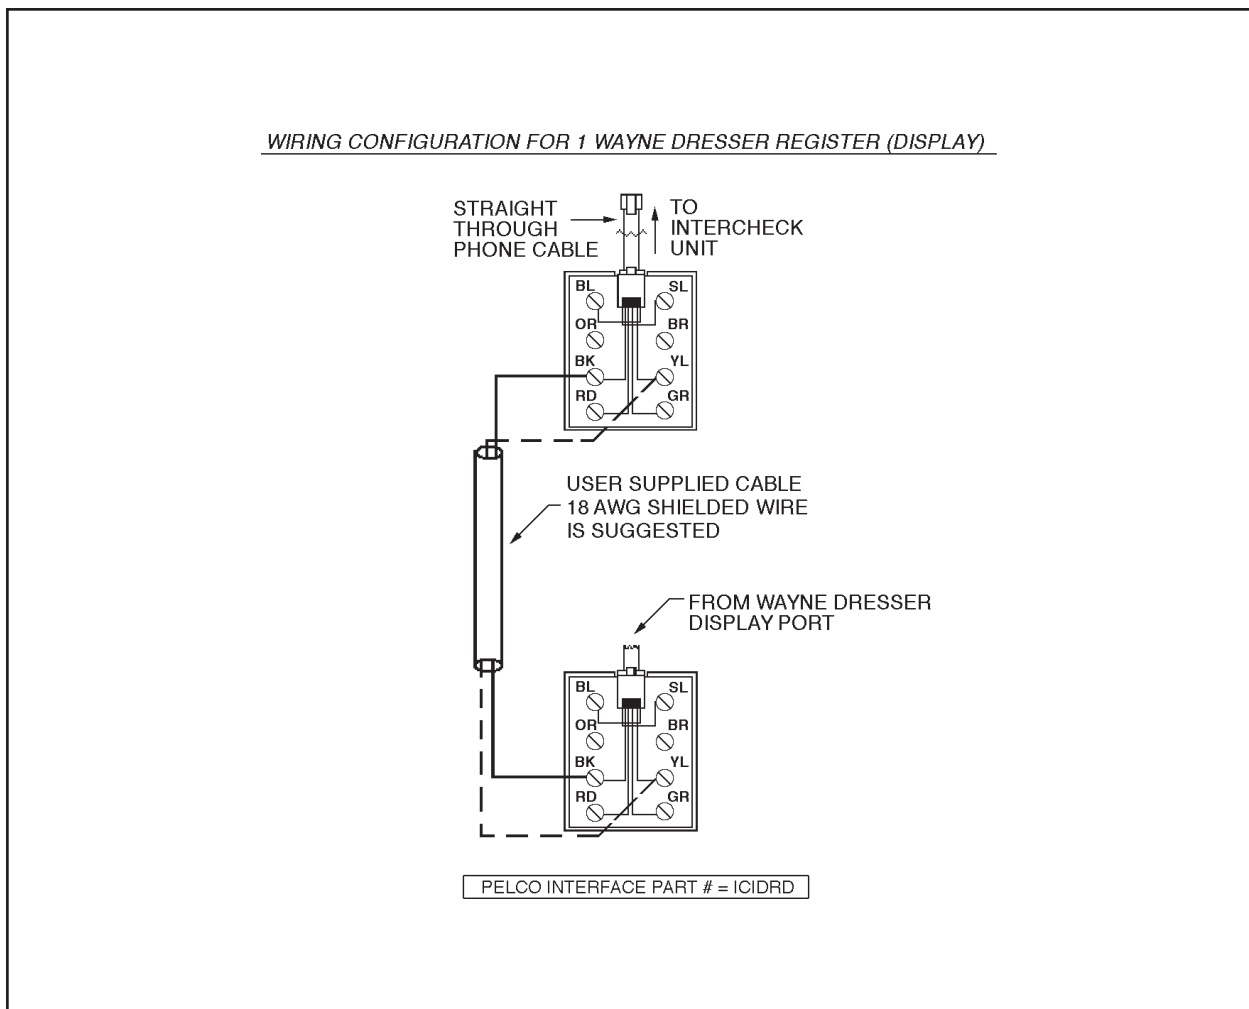
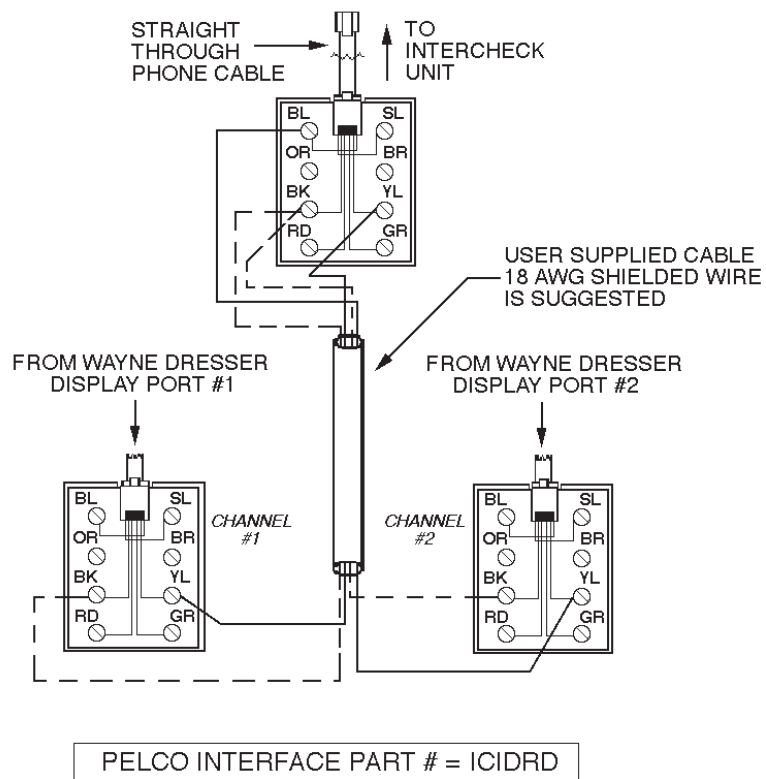

Figure 1. Wiring Configuration for One (1) Wayne Dresser Register (Display)
Figure 2. Wiring Configuration for Two (2) Wayne Dresser Registers (Displays)
6. Refer to Figure 1 or Figure 2 for the proper wiring configuration to your Inter-Check unit.
The wiring configurations shown in Figure 1 and 2 are a key component to your installation.